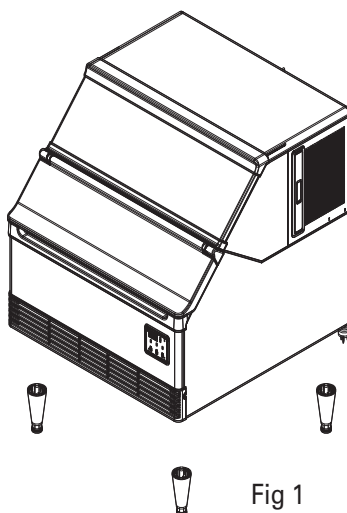

Fig 1
3. Install legs at every bottom corner of the machine and level the machine. (See Fig 1)